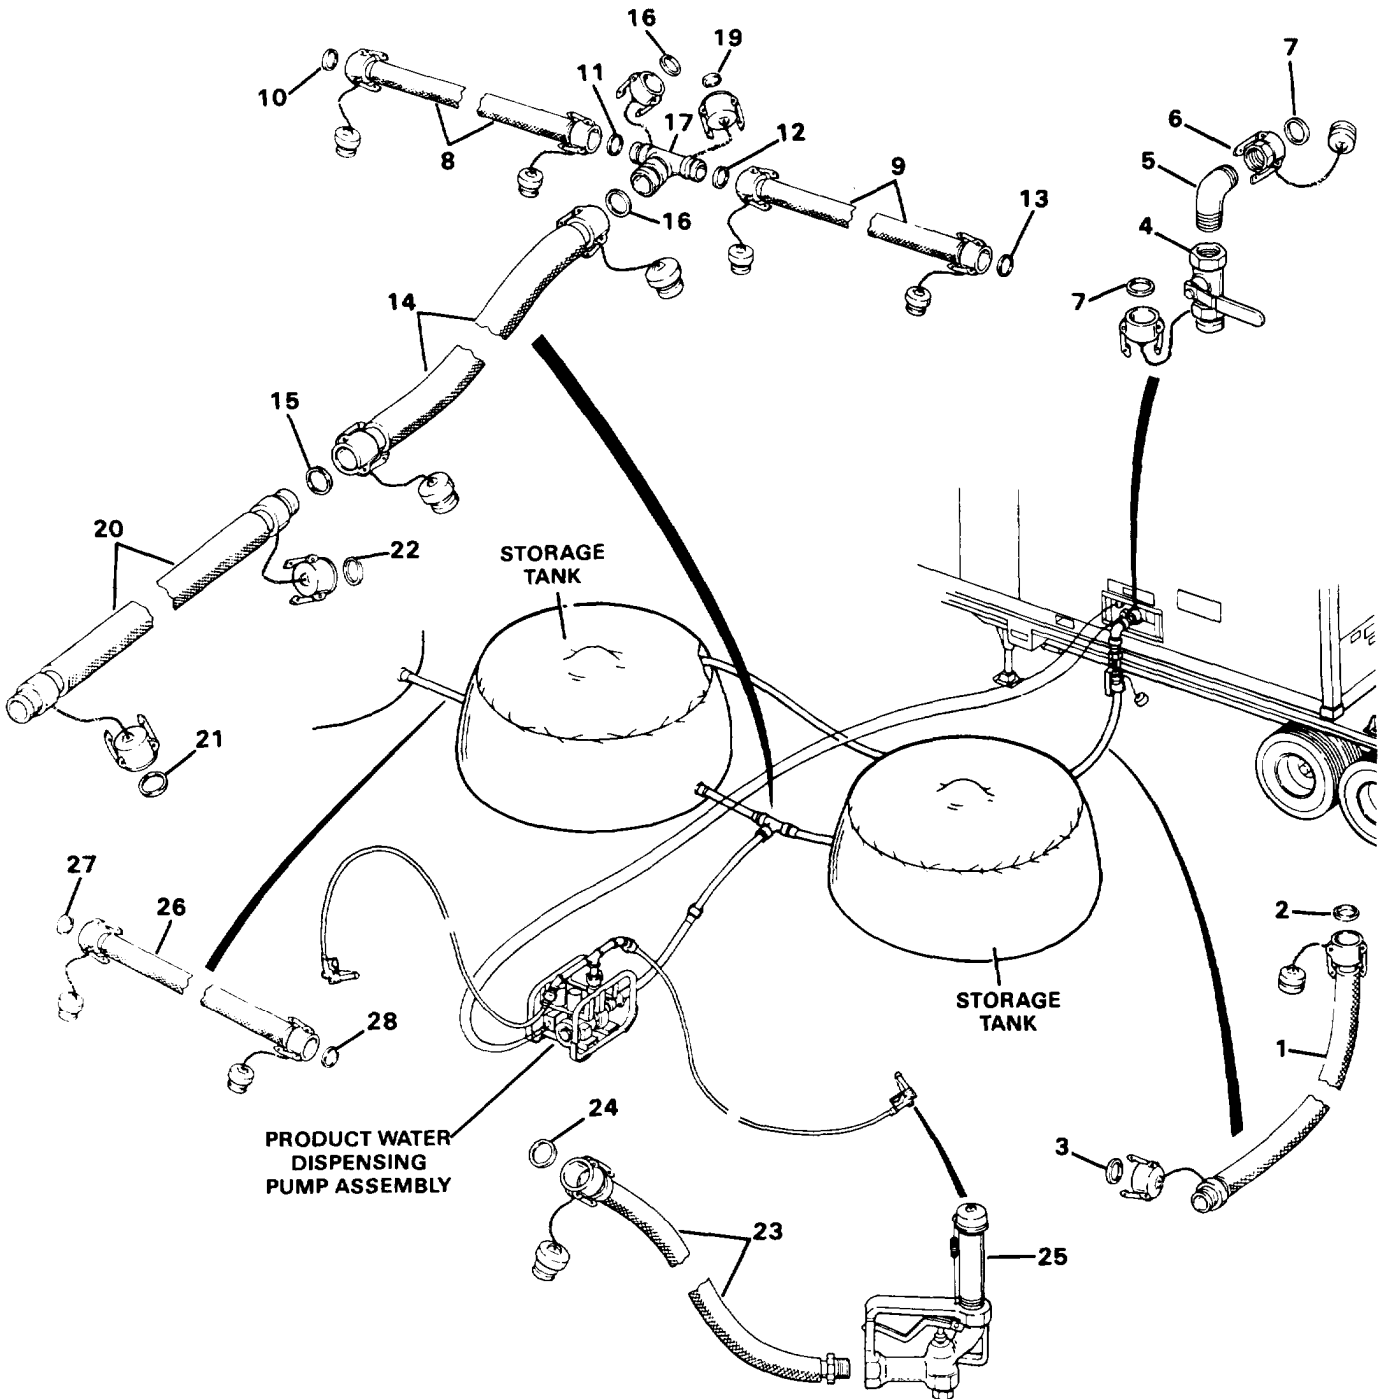

Figure 4-101. Distribution Piping, Hoses and Dispensing Nozzles
- a. Refer to Figure 4-101 and remove hose assembly (1) by opening cam locks. Remove gaskets (2 and 3).
- b. If necessary, remove valve (4), elbow (5) and connector (6). Remove gasket (7).
- d. Remove hose assembly (14) and gaskets (15 and 16), Tee (17) is now free, Remove gaskets (18 and 19),
- e. Remove hose assembly (20) and gaskets (21 and 22).
- f. Remove hose assembly (23) and gasket (24),
- g. Unscrew nozzle assembly (25).
- h. Remove hose assembly (26) and gaskets (27 and 28).